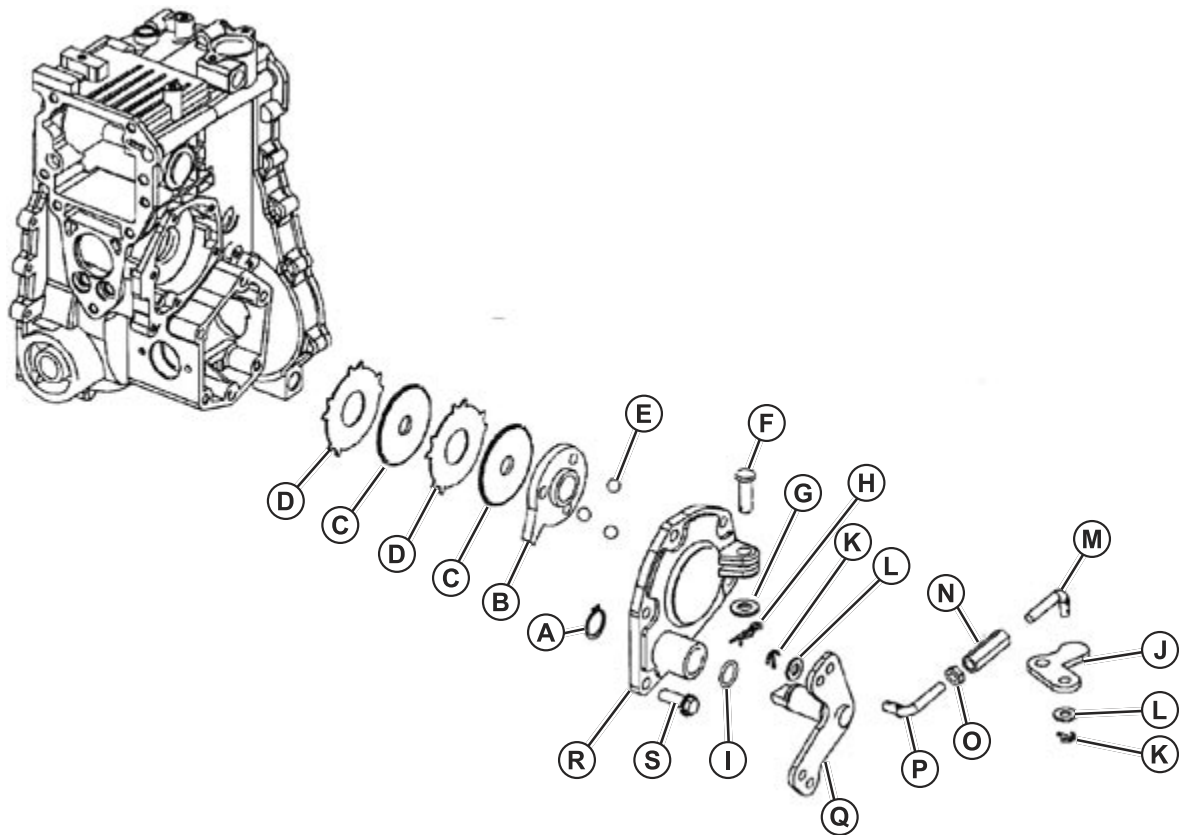

Fig. 78, Brake Disassembly
1. Inspect components on brake cover (R). Replace as necessary. Apply petroleum jelly to O-ring. (Fig. 78)
3. Apply petroleum jelly to balls (E) and install balls in cover.
4. Install steel plates (D) and friction plates (C) alternately beginning with a steel plate.
6. Install brake actuator plate (B) and brake cover assembly (R).